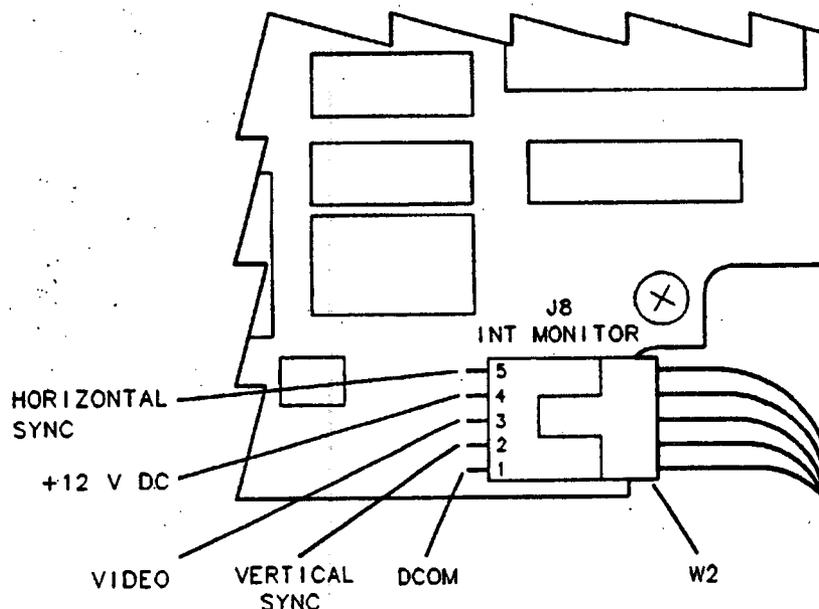

Figure 6-3. A16J8 Display Signal Output Pins
3. Refer to Figure 6-3 for the location of the test points and measure the following signals, using an oscilloscope: